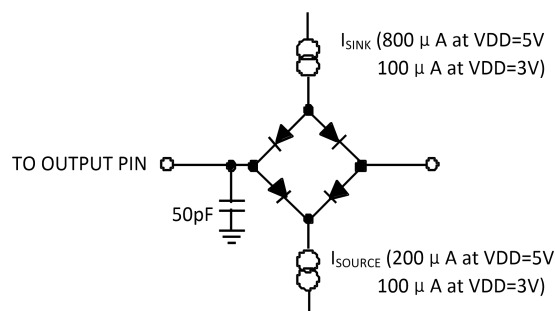

Figure 1. Load Circuit (excess time and bus release time)
If there is no special description, VDD=2.7 to 5.25V, GND=0V; fCLKIN=2.4576MHz, input logic low is 0V, input logic high is VDD. Test at 25°C. All input signals meet tR=tF =5ns (10% to 90% of VDD) and start timing from 1.6V. See Figure 1 and Figure 2.
5. These values are measured in load shown in Figure 1. It is defined that the time required for output crossing V_{OL} or V_{OH} .
6. These values are measured when data output is 0.5V (load situation is shown in Figure 1). Then backstep by measured data to remove the effect of charging and discharging 50pF capacitor. It indicates all time values in parameter table are real bus release time and are independent of external load capacitors.